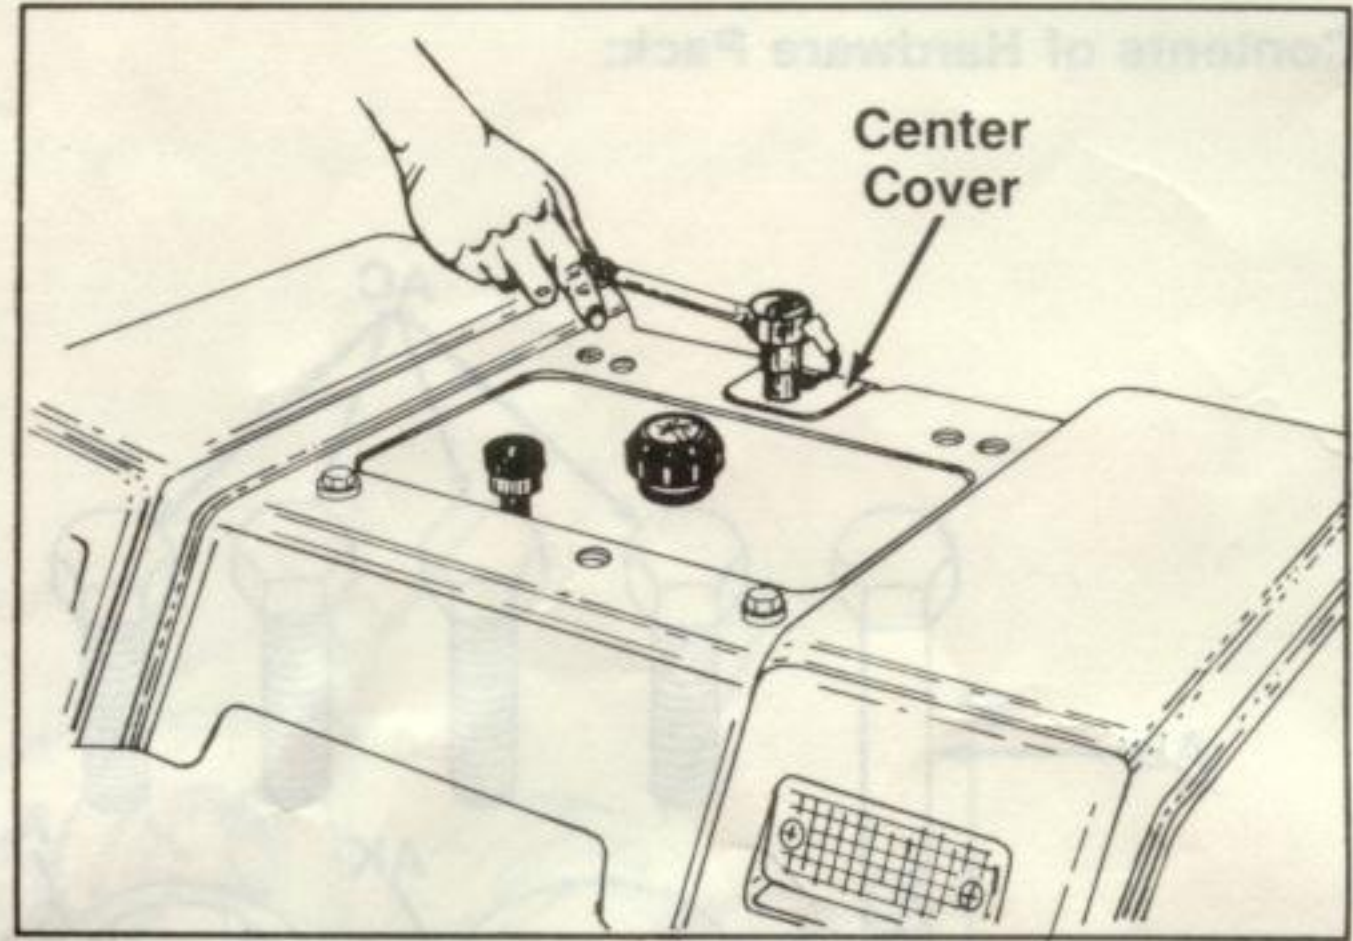

FIGURE 3.
4. Remove the center cover, by removing one bolt and flat washer. See figure 3.